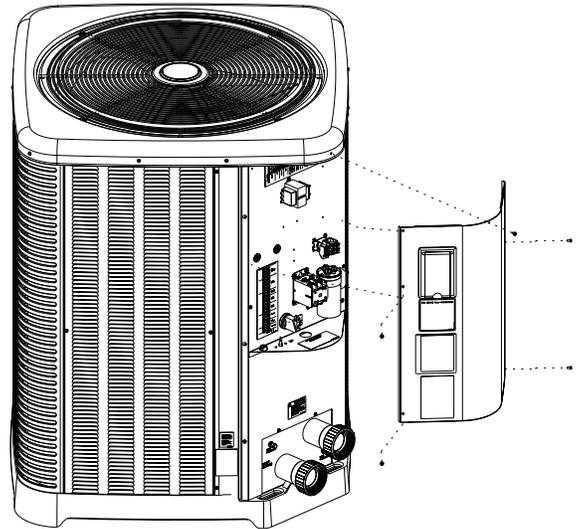

Figure 11. Sheet Metal Screws to Remove Control Panel
2. Remove the 5 screws securing the control panel cover from the cabinet (2 each side and 1 in the top panel – see **Figure 11** below). Place the screws in the recessed cups in the molded base.